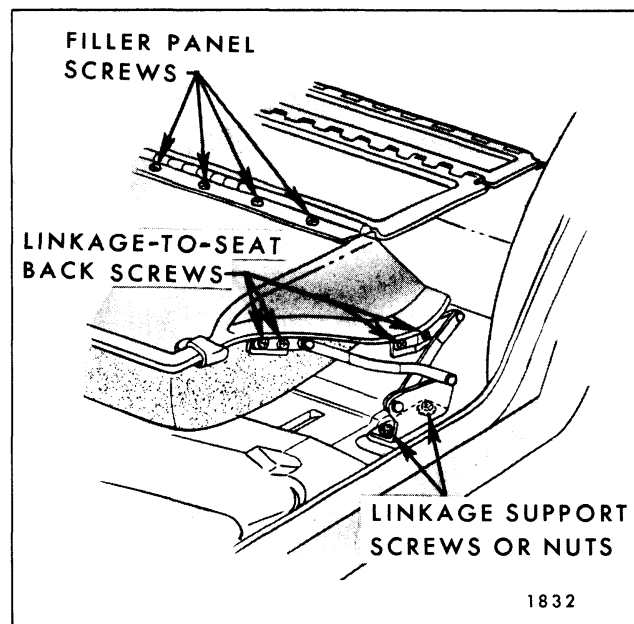

Fig. 9-79-Folding Second Seat Back Linkage and Filler Panel - "A" Body Two-Seat and Three-Seat Styles
3. Mark position of folding second seat back linkage supports on floor pan. Remove nuts from both sides of seat back securing linkage supports to floor pan (Fig. 9-79).
4. To remove linkage from folding second seat back remove linkage-to-seat back panel attaching bolts and remove linkage (see Fig. 9-79).
2. Move folding second seat back forward just sufficiently to remove two lower linkage-to-seat back panel attaching screws (see Fig. 9-79).
4. Remove two upper linkage-to-seat back panel attaching screws (see Fig. 9-79).
5. Remove nuts securing linkage support to floor pan, then, carefully remove linkage assembly from seat back and floor pan (see Fig. 9-79).